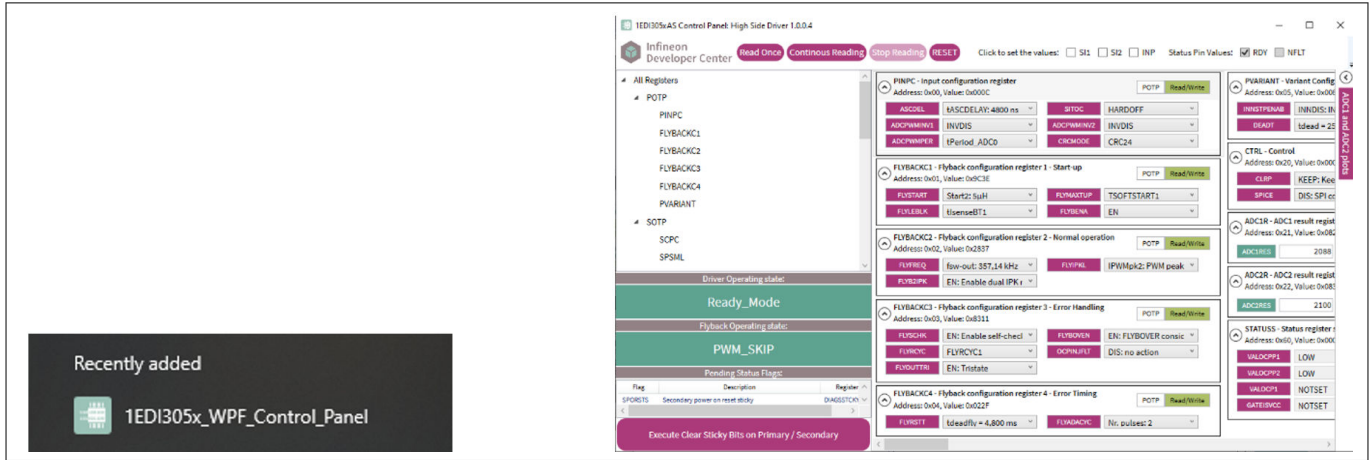

Figure 23 .NET Framework 4.8 download instruction – start GUI
- Start the application from the Windows start menu. See Figure 23